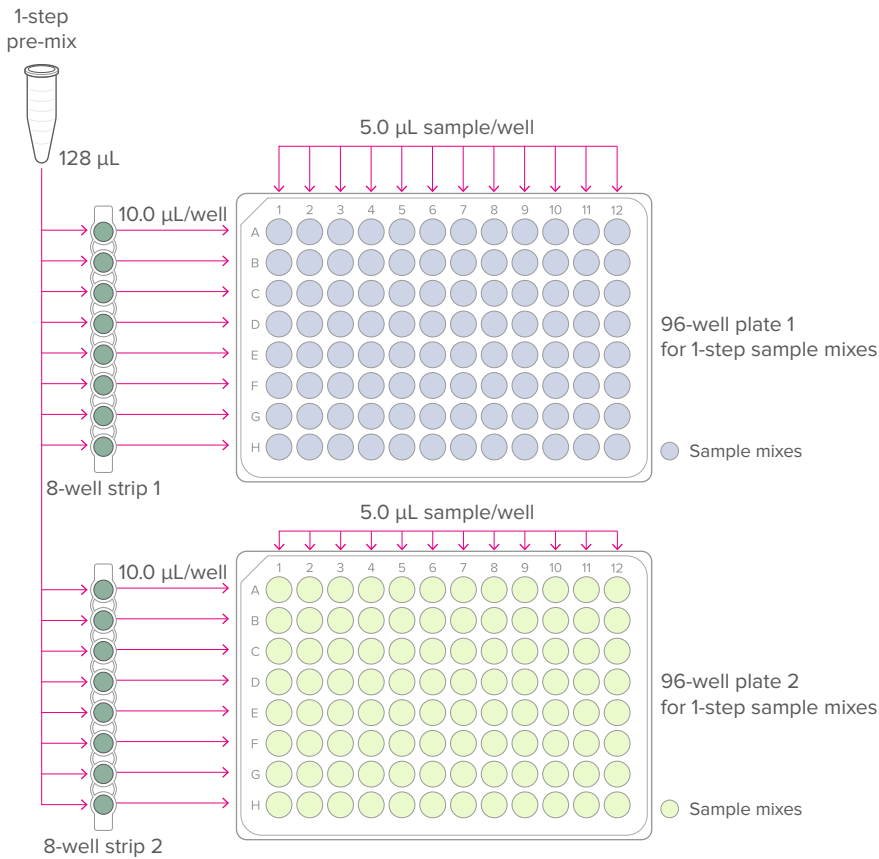

Figure 1. 1-step reaction plates (per-well transfer volumes)
- 4 Aliquot 128 μL of 1-step pre-mix into each well of two 0.2 mL 8-well strips (see Figure 1).
- 5 Use an 8-channel pipette to combine the 1-step pre-mix and the samples in 2 new 96-well plates as shown in Figure 1.